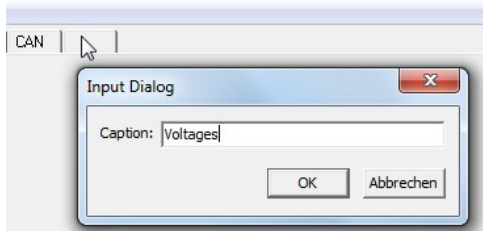

Figure 6.9: Create caption "Voltages" (example)
E.g., you can not use “Sine encoder 2” and “Endat” at the same time. In case of invalid sensor settings, one of the following error messages is output, see Fig. 6.9: